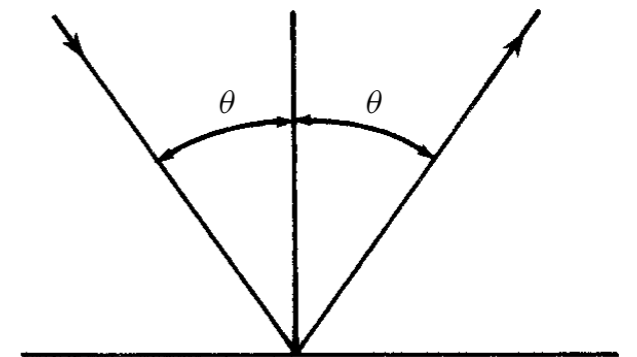

Figure 1.8 The law of reflection
2. Reflection. On reflection from a mirror, the angle of reflection is equal to the angle of incidence (see Figure 1.8). In this context we mention that on reflection (scattering) from a rough surface (roughness  $>\lambda$ ) the light will be scattered in all directions (see Figure 1.9).